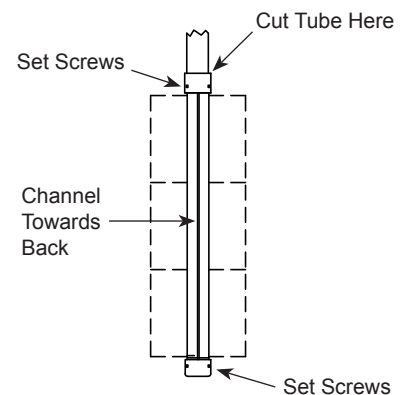

Figure 5
16. Screw the tube/gusseted tube into the lower arm stopping at a point where the channel (if using a gusseted tube) is facing away from the signal. (Figure 5)
18. Torque the set screws to 13 ft-lb in the upper and lower arms. DO NOT OVERTIGHTEN. (Figure 5)
19. Optional: Using the hack saw, cut off any excess tube protruding above the upper arm. (Figure 5)